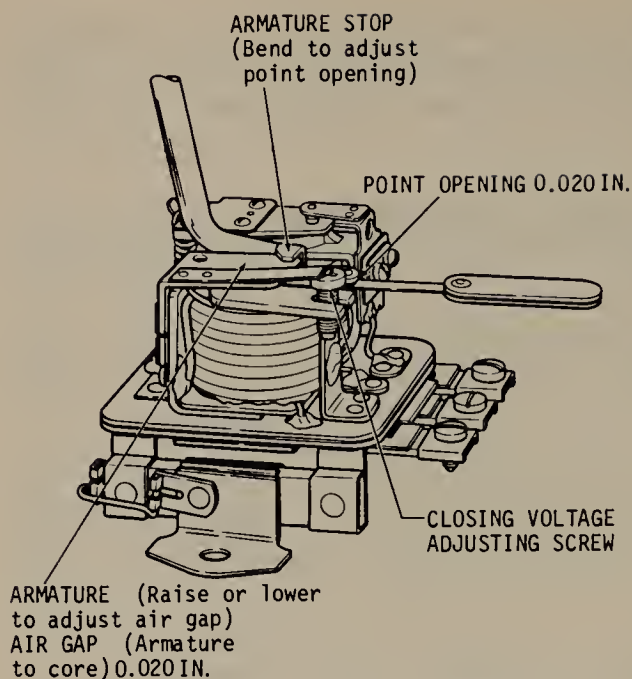

FIGURE 13.19 Cutout relay adjustments. (Kohler Company.)
a. Air Gap. See Fig. 13.19. Put a finger on the armature directly above the center of the winding and press the armature down until the points just close. Measure the air gap between the armature and the center of the winding core. On the model shown, this should be 0.020 in. Adjust by loosening the two screws attaching the armature hinge to the frame and raise or lower the armature assembly.
b. Point Opening. Release the armature and measure the point opening, as shown in Fig. 13.19. On the model shown, this should be 0.020 in. Adjust by bending the upper armature stop.
slowly increase its speed, noting the increase in voltage. Watch for the points to close and read the voltage at this instant. The voltage should be adjusted, if it is not correct, by turning the closing-voltage adjusting screw (see Fig. 13.19). Turning it up to increase the tension of the flat spring increases the closing voltage. Recheck the closing voltage after each adjustment by slowing the engine until the points open, and then increasing the speed again.
Refer to the manufacturer's instructions for the specific model under test so you will know how to connect the meters to make the test. Adjust by bending the lower spring hanger down to increase the voltage setting, or up to lower the voltage setting. Some models have a screw adjustment, similar to that shown in Fig. 13.19 for the cutout relay. Turning the screw in or out changes the voltage setting.